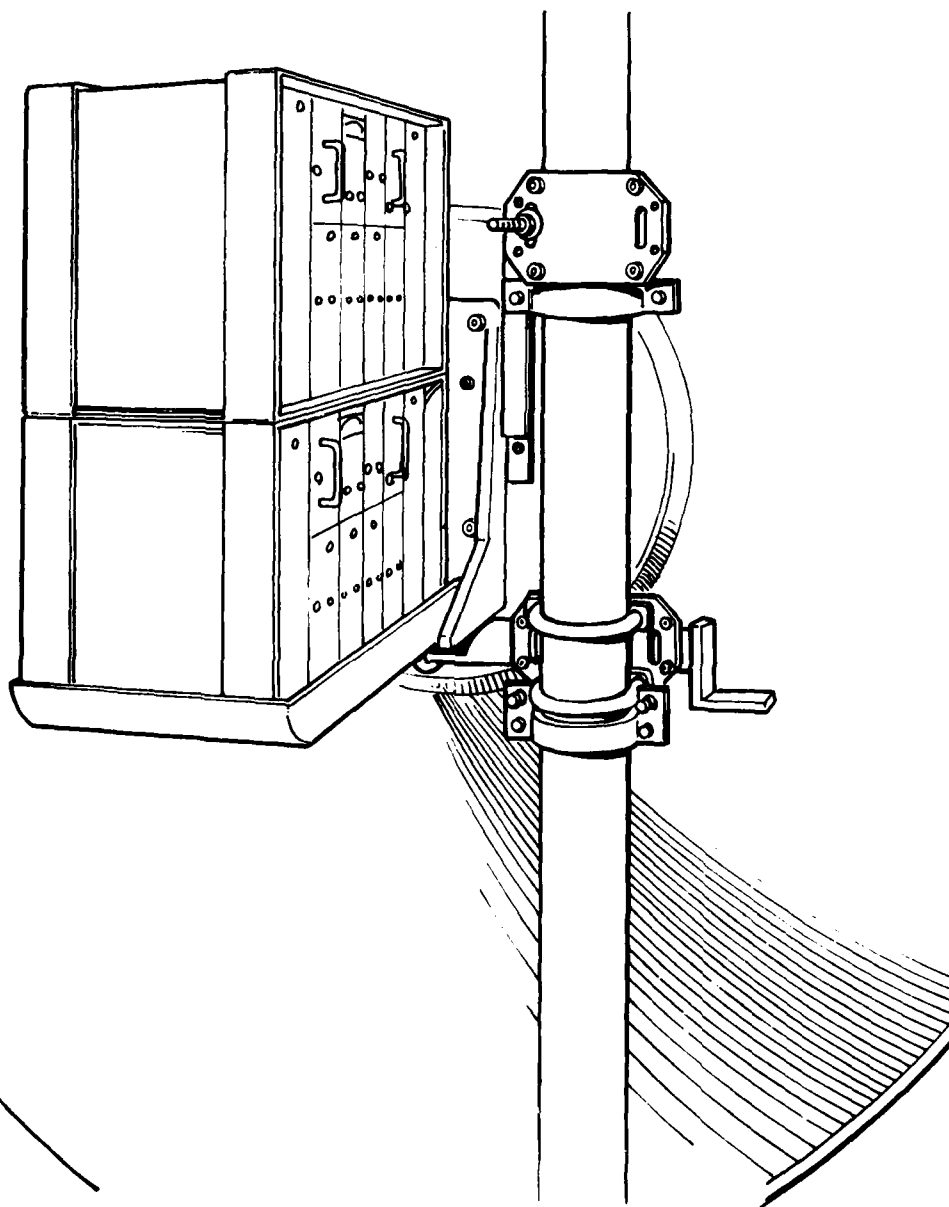

Figure 59. Type I A Antenna Pipemount
- (1) Remove the pipemount from the protective canvas bag.
- (2) Assemble the pipemount on the prepared 4 1/2 inch O.D. pipe at the appropriate level.
- (3) Attach the L-bracket to the pipemount at three points, as shown in Figure 59, with the hardware provided.
- (4) Assemble the L-bracket adapter to the L-bracket and secure.
- (5) Set the general elevation and azimuth angles desired.
- (6) Remove the antenna and radome from their protective bag and assemble the antenna and feedhorn to the L-bracket, as in Section 3.3.1.1, (8) through (10), above.
- (7) Attach the radome to the antenna with the hardware provided.
- (8) Trim the azimuth angle with jack screws on the safety collar and the elevation angle with 5/8 inch nuts on the elevation rod.